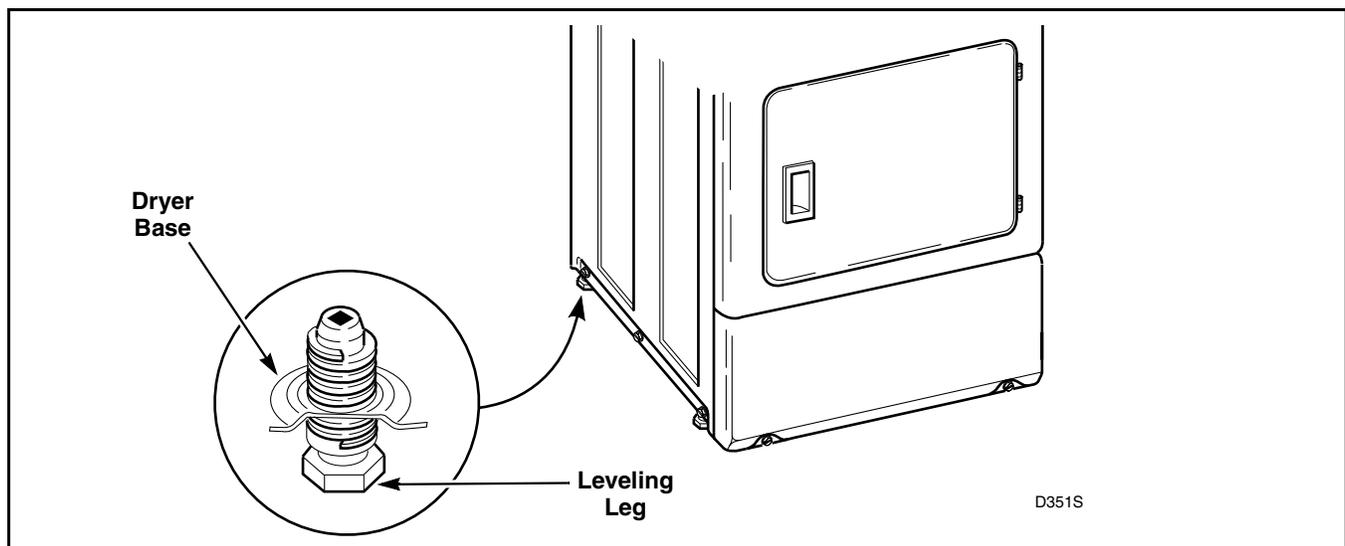

Figure 42
- p. Remove leveling legs from base and reinstall on new base. Refer to *Figure 42*.
Refer to *Figure 42*.